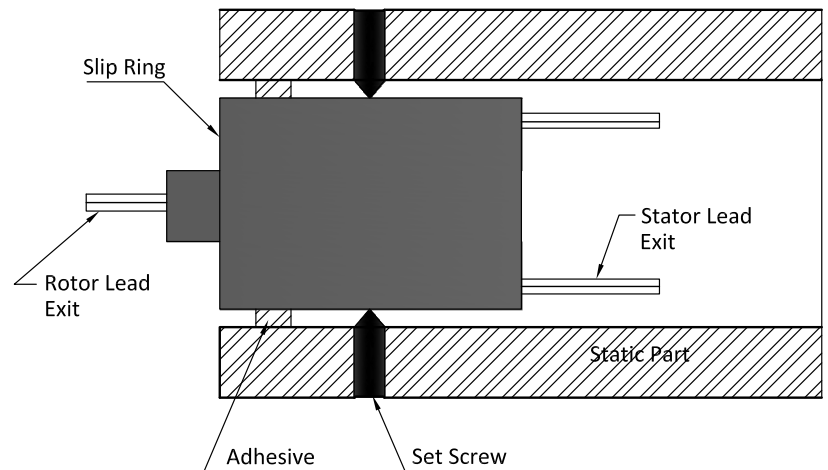

Figure 2
2. Slip ring without flanges should also be mounted by securing the stator. This is most commonly done by inserting the body of the slip ring into a hole that is slightly larger than the OD and then securing it as shown in Figure 2. The most common methods include set screws, adhesives.